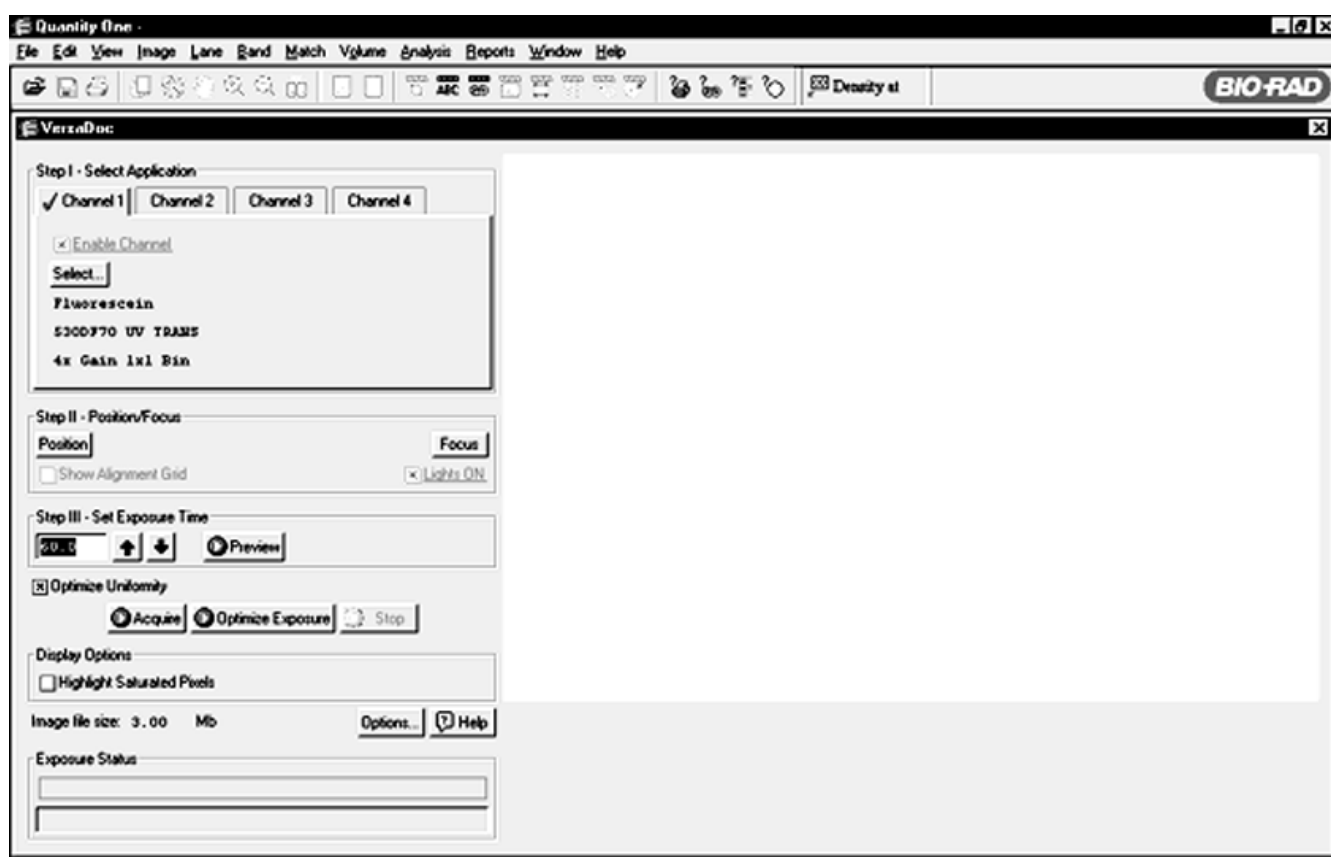

Figure. 4.1. VersaDoc acquisition screen in Quantity One.
The Quantity One program uses an application-oriented format to simplify user selection of collection parameters. To correctly set the parameters for collection, simply click the SELECT button in Step I (Figure 4.1) and identify the application name matching your sample type. For detailed acquisition instructions please refer to the Quantity One software instruction manual.
3. From the VersaDoc acquisition window select the POSITION function in Step II (Figure 4.1). The image display window will now present a real time image of the sample in the chamber that refreshes rapidly.
To focus the lens on the sample for sharp images you must choose the FOCUS button in the Quantity One acquisition window. This button allows focusing on a small part of the image. When using this mode the white epi lights turn on automatically and the shutter is opened and closed repeatedly and the acquisition window is continuously updated to allow you to focus your lens on the sample. The exposure time during the focus mode is adjusted automatically to allow proper unsaturated images. If during focus mode the images still show up saturated, then you must adjust the aperture to a lower setting to view the images in the focus mode. If the images still show up as saturated (all white), then you may turn off the epi lights by clicking on the button labeled "Lights On" (see figure 4.1). This will turn off the white lights and now you may open the main door and adjust the focusing ring (See Figure 4.5) on the lens to achieve a sharp focus on your sample.